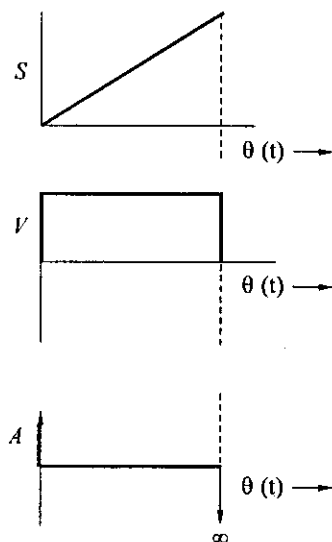

Fig. 8.10
**Uniform velocity:** (Refer fig. 8.10) For uniform velocity, the displacement curve is a straight line of constant slope. The acceleration and retardation of the follower at the beginning and at the end of each stroke would require to be infinitely high. Because of the infinite acceleration, uniform velocity is not suitable for high speed applications.